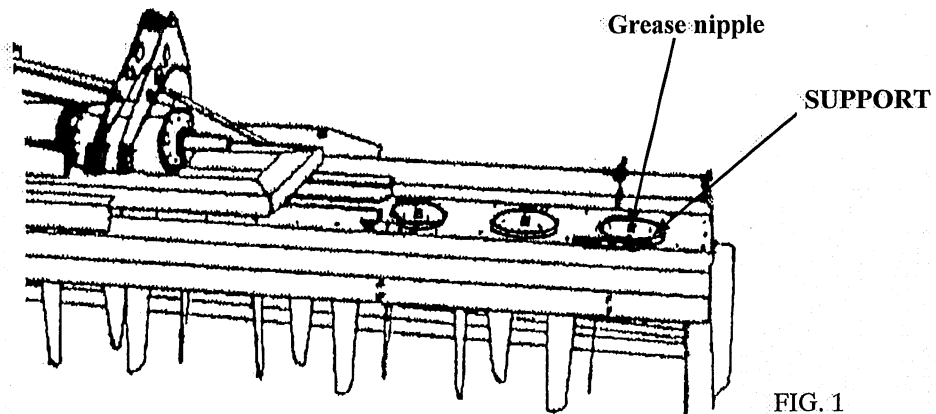

FIG. 1
- Grease the two bearings of each shaft tine-holder through the grease nipple located on the support of each shaft itself (see fig. 1). Proceed after cleaning each grease nipple for more efficient lubrication. Use lithium grease type: NLGI 2.